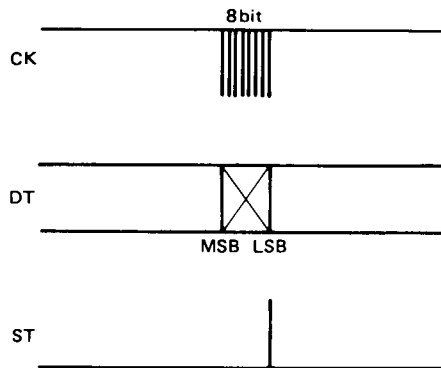

Fig. 19 Transmit Data form
The power switching (8R and 8T), ALT, and control output of the electronic volume control are written into the 8 bit shift register IC3 of the TX/RX unit and are applied through P92 (CK), P91 (DT), and P21 (ST) of the microprocessor. P92 (CK) and P91(DT) are also shared by the PLL data. The transmit data form and organization are shown in **Fig. 19** and **20**.